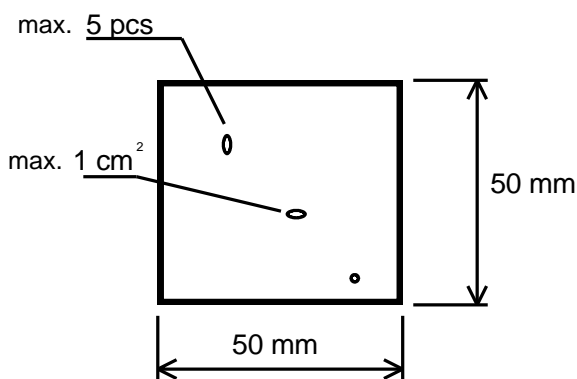

fig. 3.1.1
3.1.1 The maximum acceptable number of single defects as described below (fig. 3.1.1) must not exceed 5 per 25 cm²
最大可接受的表面缺陷数量如图3.1.1